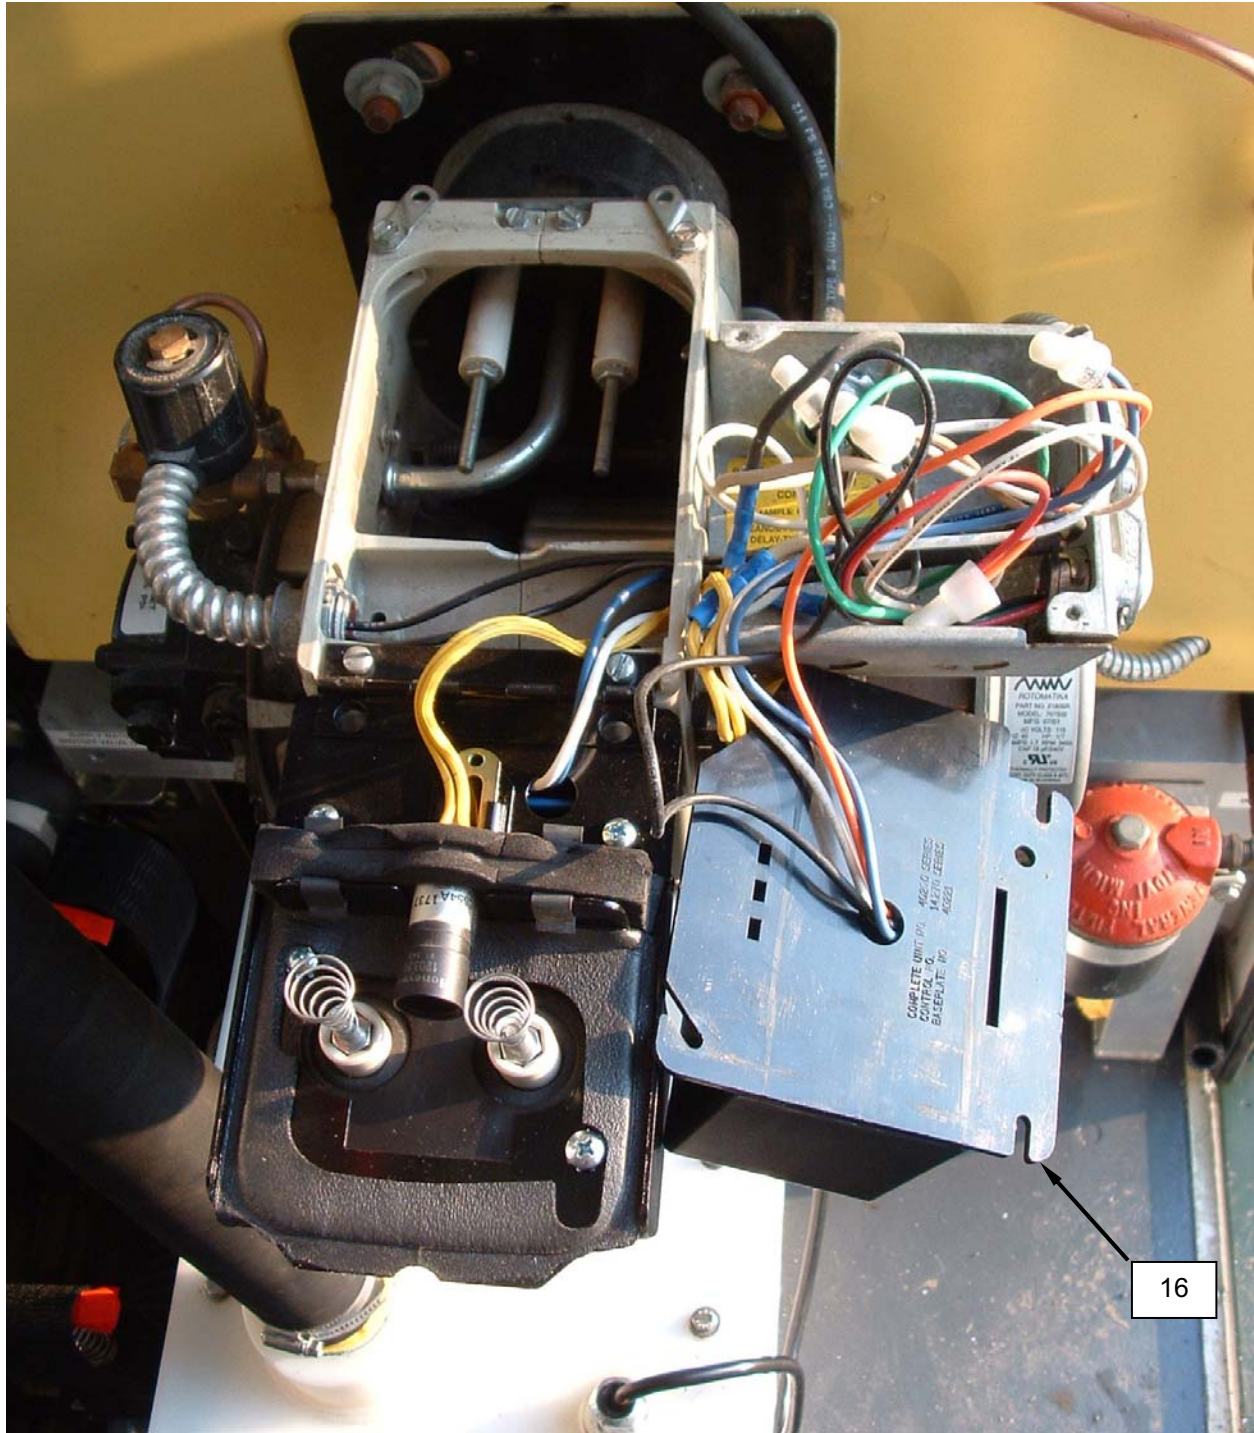

Figure 9. Replace the Burner Controller.
2. Remove screws retaining controller (**Figure 9, Item 16**) to burner.
3. Remove controller (**Figure 9, Item 16**) with guard as an assembly from burner.
4. Remove guard from controller (**Figure 9, Item 16**).
5. Tag and disconnect wiring from controller (**Figure 9, Item 16**).
6. Connect wiring to replacement controller (**Figure 9, Item 16**) as tagged.
7. Install guard onto controller (**Figure 9, Item 16**) and ensure alignment of screw holes is correct.